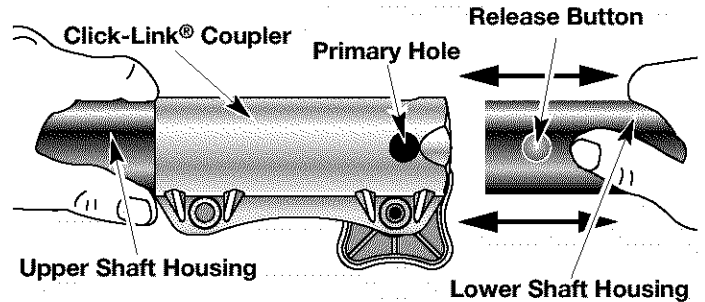

Fig. 5
2. While firmly holding the add-on, push it straight into the Click-Link® coupler (Fig. 5).
NOTE: Aligning the release button with the guide recess will help installation (Fig. 5).